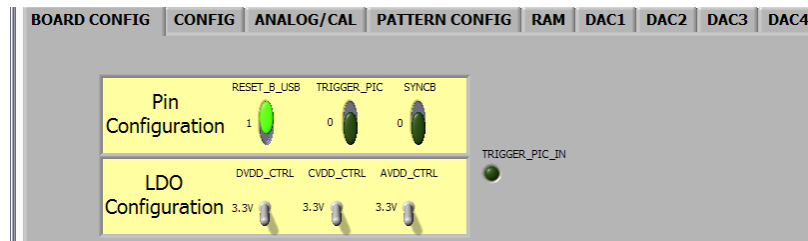

Figure 11 :AD9106 Evaluation software BOARD Config TAB
The BOARD CONFIG tab can be used to configure the evaluation board for power supply and signal levels – Figure 11.
1. Set the voltage of the DVDD and CVDD regulators on the AD9106 evaluation board to 1.8V on the BOARD CONFIG tab of the AD9106 evaluation software – see Figure 11. This will assure that SPI communication and the AD9106 clock power supply pins are powered with 1.8V